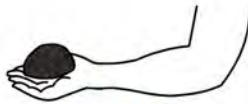

Fig. 3.15
37. Indicate the positions of load L, effort E and fulcrum F in the forearm shown alongside in Fig. 3.15. Name the class of lever.